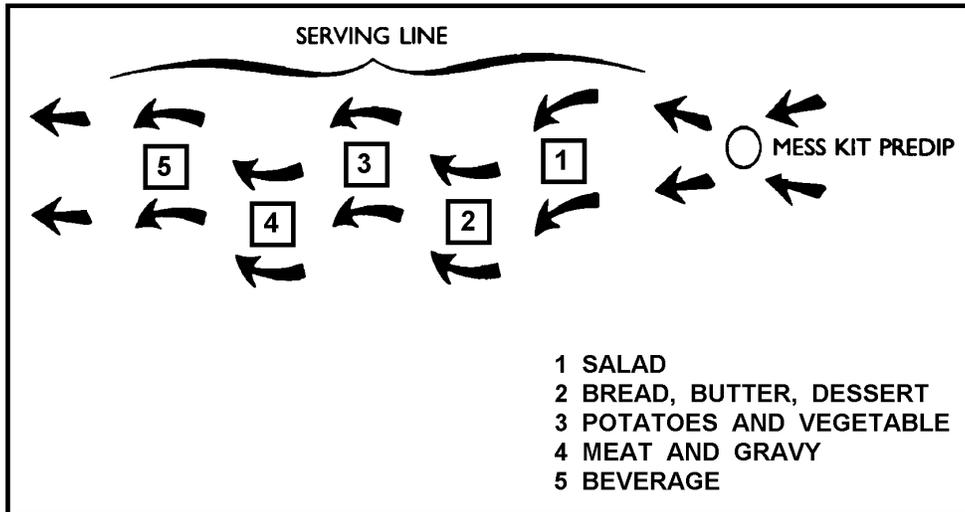
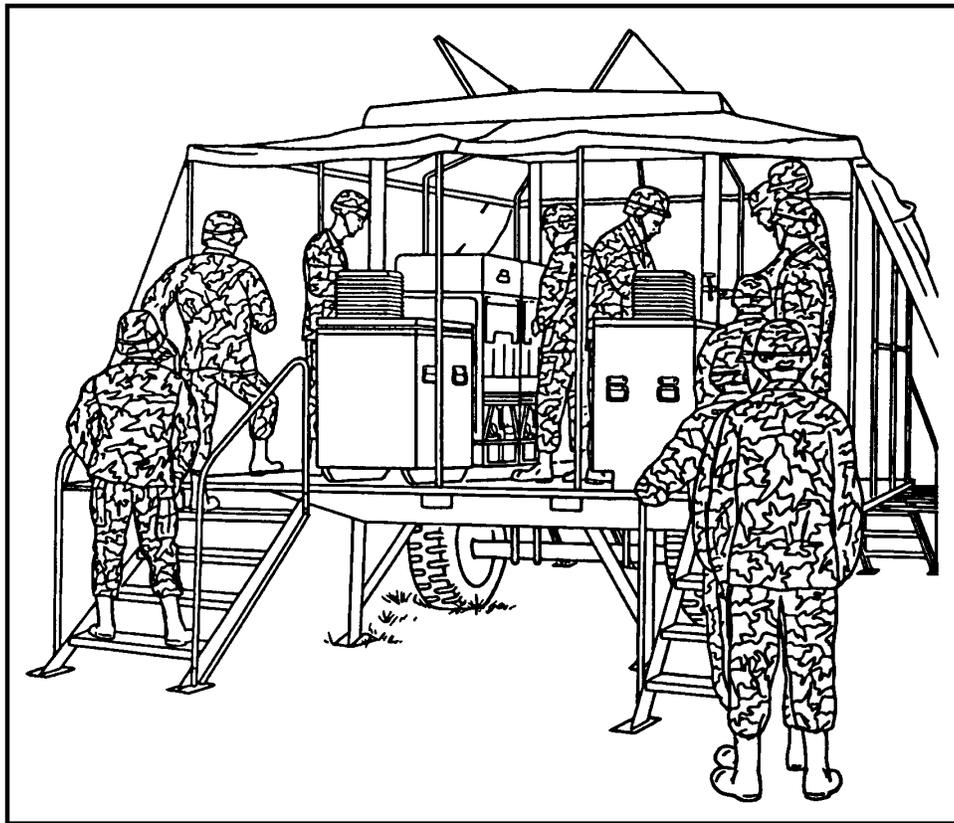

Figure 2-1. Serving lines under threat attack.
Figure 2-2. Trailer-mounted field kitchen with two serving lines.
| <ol style="list-style-type: none"> 1. Set up the serving line. <ol style="list-style-type: none"> a. Set up the serving line under the threat of an attack. <ol style="list-style-type: none"> (1) Place serving tables approximately 5 yards apart. (2) Set up serving tables in a staggered line. (See Figure 2-1.) (3) Set up serving lines so that diners can pass on both sides of the server. (4) When using the MKT while under the threat of attack, set up two serving lines, one on each side of the trailer. (See Figure 2-2.) (5) Enter the trailer from either end. (All soldiers should move through the serving line in the same direction.) | <p>P F</p> |